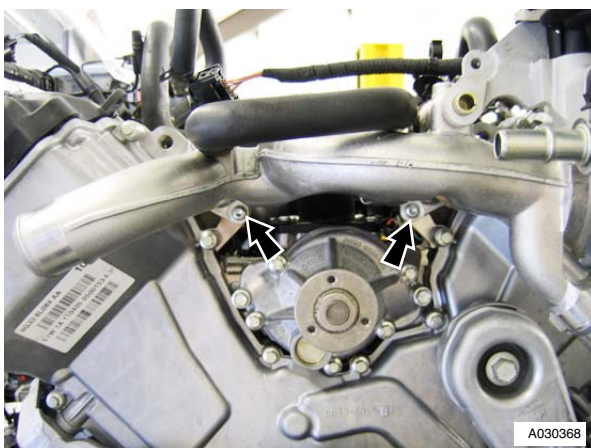

Figure 1
8. Remove the four Torx bolts that attach the coolant manifold to cylinder heads (refer to Figure 1).